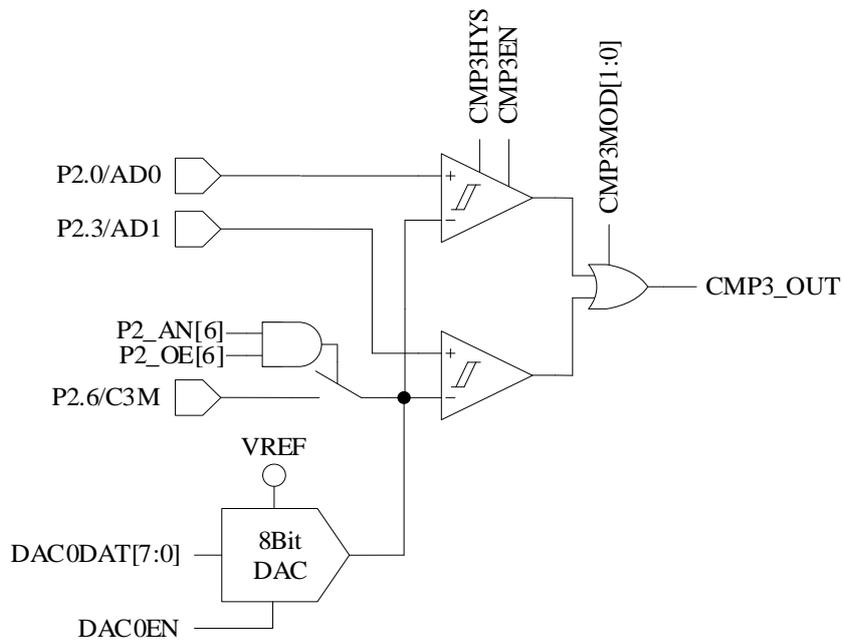

Figure 27-3 Dual-comparator Input Mode
- When CMP3MOD = 01, CMP3 works in dual comparator input mode. The connection of input and output pins are shown in Figure 27-3.